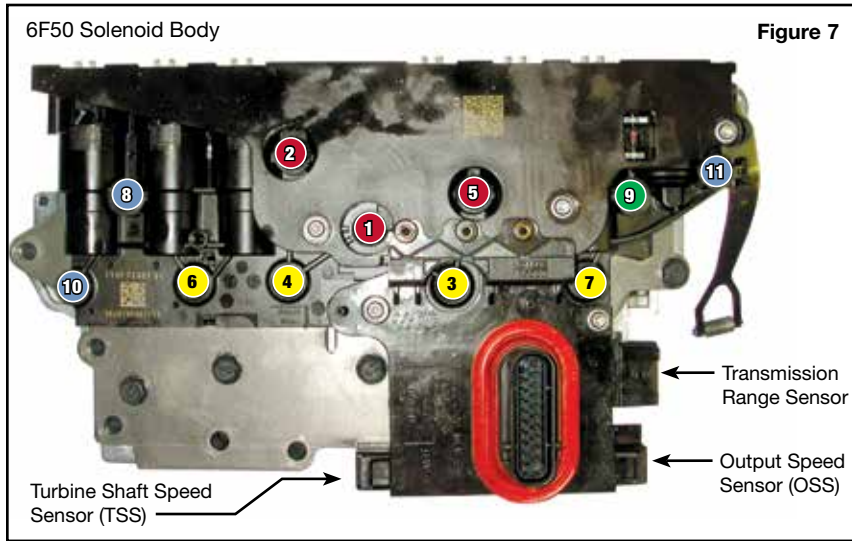

Figure 7
1. Valve Body Removal from Case (Figure 7)
- c. Install solenoid body and secure with 11 bolts (Figure 7). Hand tighten, then tighten in the sequence shown to 106 lb-in.